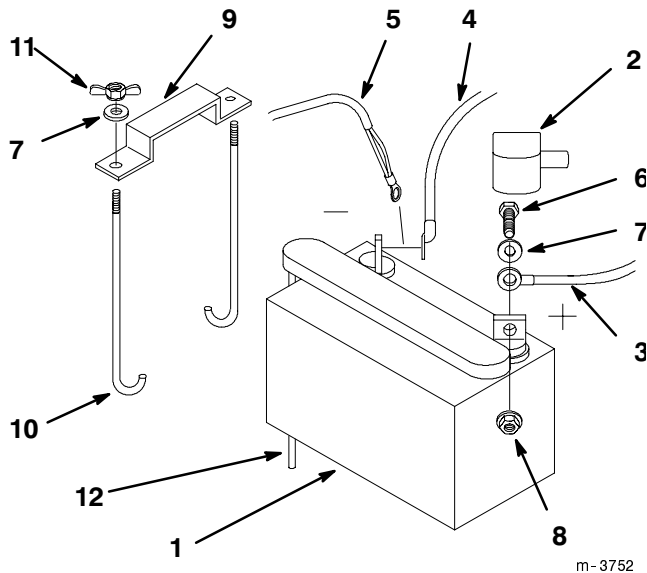

Figure 8
1. Position battery in tray with terminal posts toward the engine (Fig. 8).
3. Secure cables with (2) 1/4 x 3/4" (19 mm) bolts 1/4" washers and 1/4" locknuts (Fig. 8).
- Secure battery with J-bolts, hold down clamp and (2) 1/4" washers and (2) 1/4" wing nuts (Fig. 8).